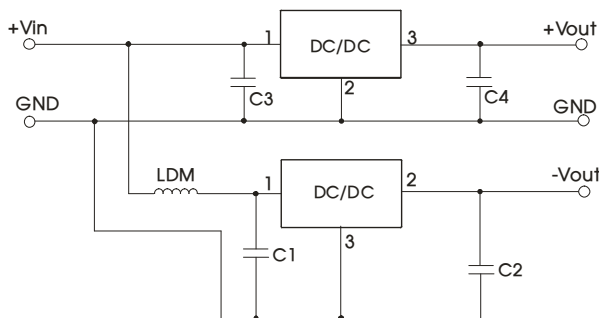

Fig. 3 Positive and Negative output application circuit
- When using configurations as shown in figure 3, we recommended to add an inductor (LDM) with a value of up to 10μH which helps reducing mutual interference.